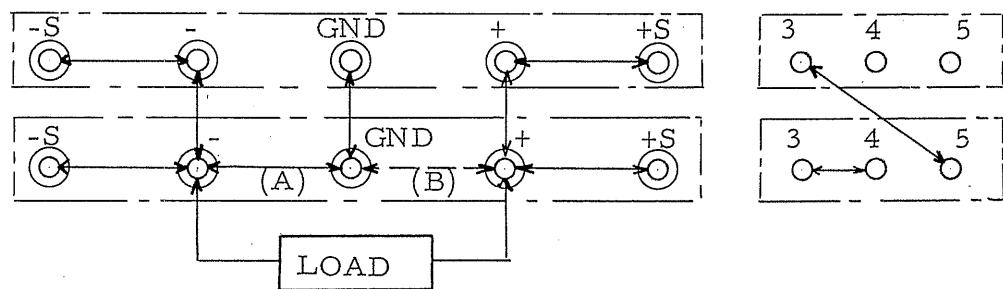

Fig. 3-10 One-control parallel operation master,
- 1) Connect the terminals on the rear panel of the master to the slave and the load as shown in Fig. 3-10.